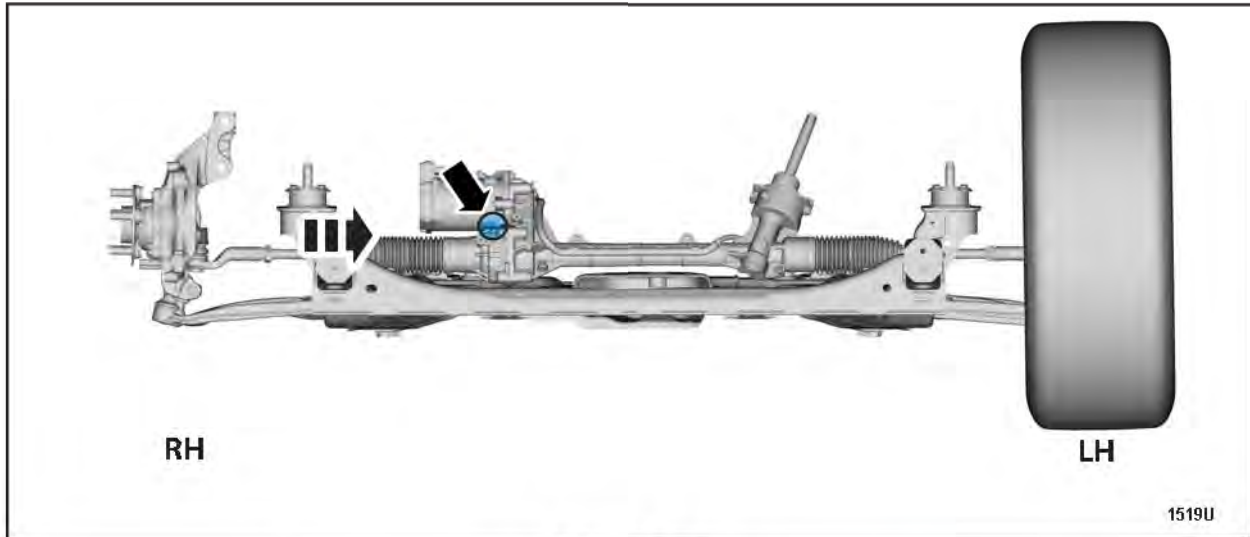

FIGURE 14
2. Working from inside the RH wheelwell, insert spray nozzle under motor and forward between motor and gear. Apply sealant to housing and gear motor seam, gear motor and housing bolts five and six heads, threads and thread holes. See Figures 14 and 15.